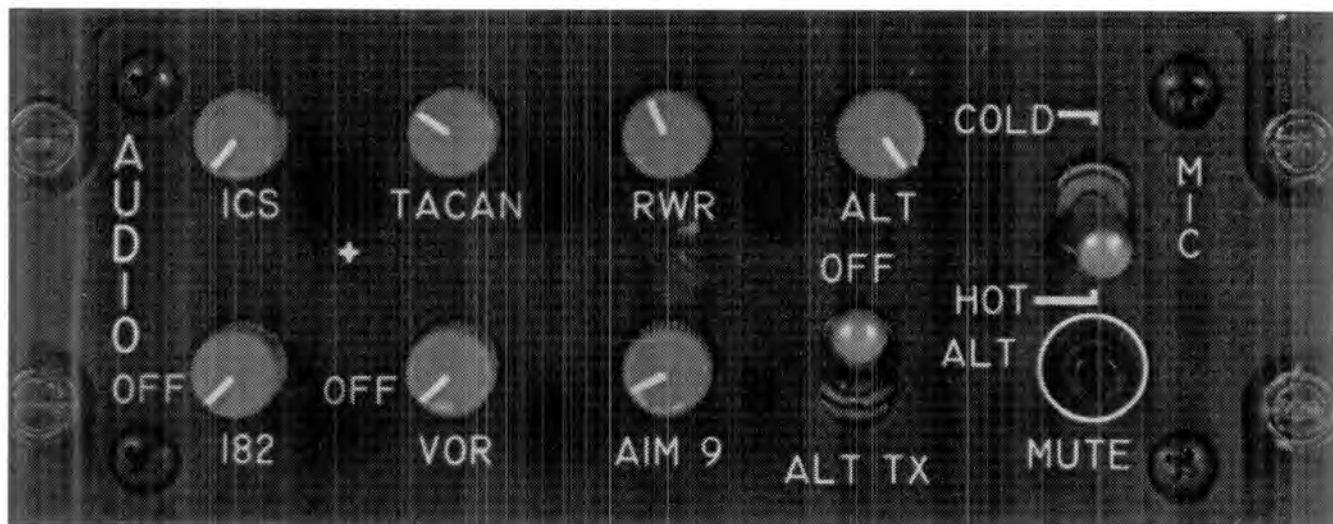

Figure 7-14 Audio Panel
7.132 The AUDIO panel (Figure 7-14) located on the right console controls the volume of audio signals, allows selection of the alternate radio amplifier, and provides an alternative transmission facility for the ARC-159. The functions of the audio panel controls are shown in Table 7-15.